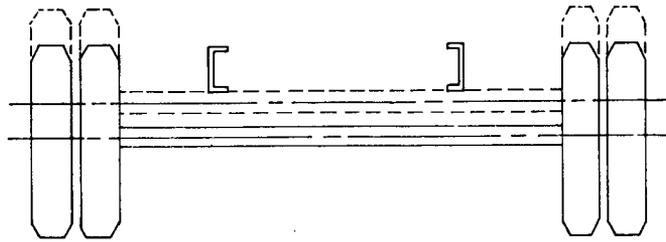

FIG. 4
- 4.2.2.1 Two Wheel Jounce: Analysis of tire to body clearances to be made through complete range of rear axle travel, full rebound to full jounce (metal to metal) position. See Fig. 4.